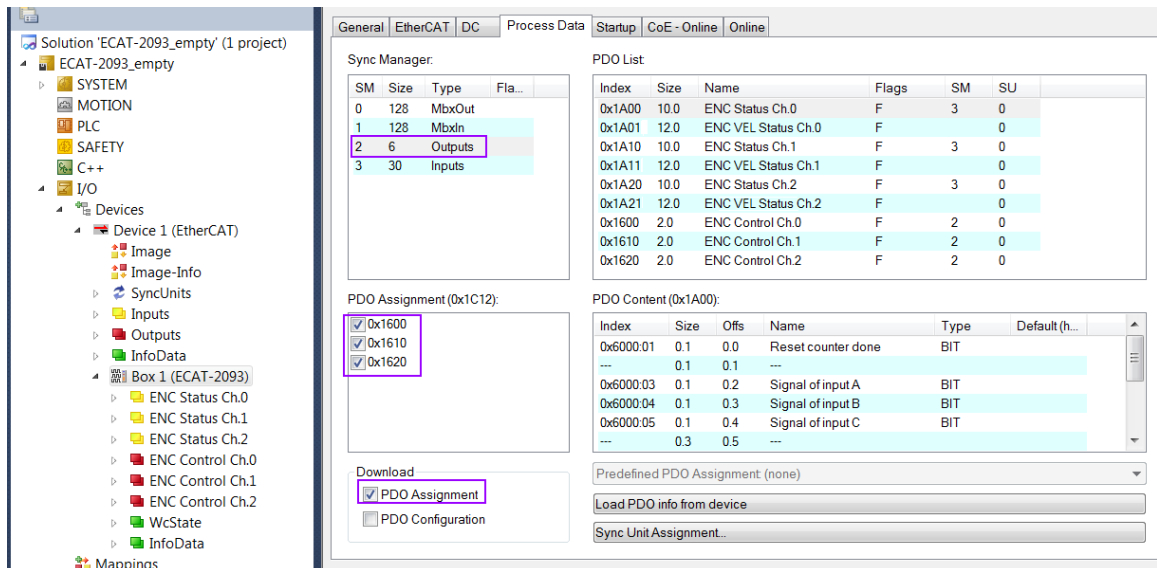

Figure 22: Predefined PDO assignment selection
2. For RxPDO selection: click in the "Sync Manager" window the "Outputs" line and in the "PDO Assignment (0x1C12)" window select for each encoder channel the required RxPDO (see Figure 22). For the ECAT-2093 only one RxPDO object for each encoder channel is available for selection. By default TwinCAT selects all the process data supported by the ECAT-2093. If the variables listed in the RxPDO are not required for the application then deselect the PDO in order to reduce the process data image size.